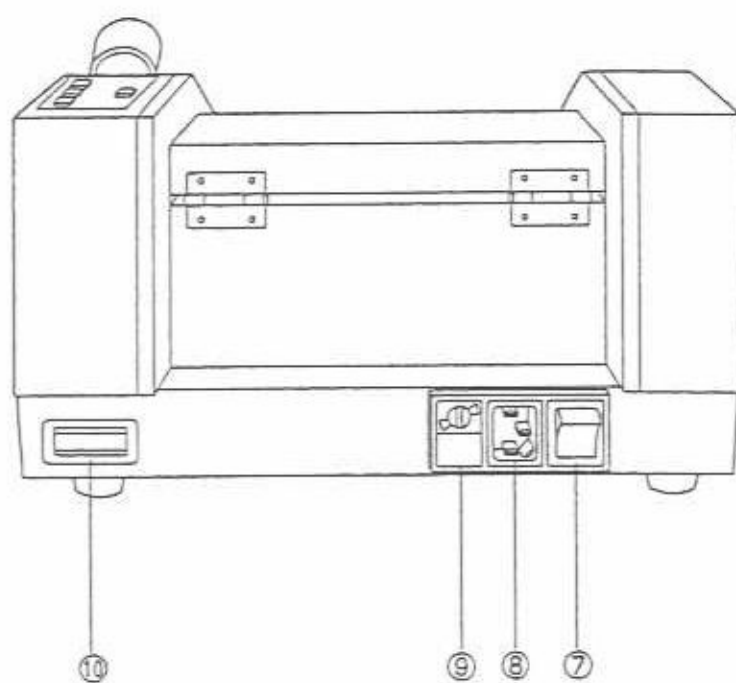

Figure 3-2
(2) Rear side (Figure 3-2)
⑦ Power switch: